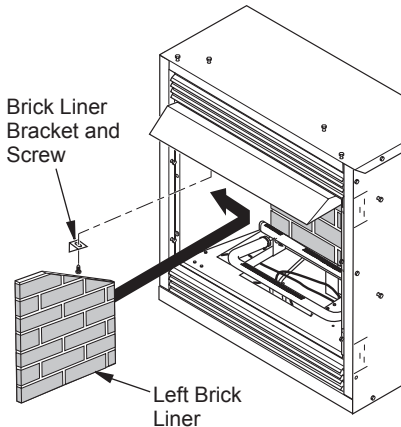

Figure 34 - Installing Side Brick Liners
3. Install left and right brick liners using brackets and screws from hardware kit as shown in Figure 34. Screw the bracket into top of firebox and against brick liners. Adjust bracket before tightening screw.